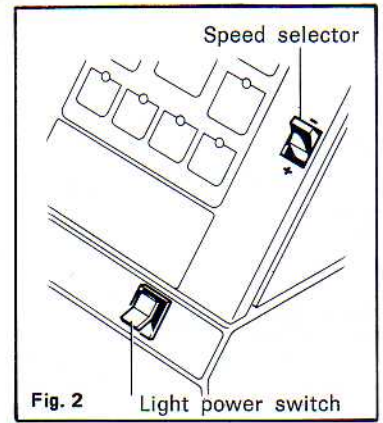

Fig. 2 Light power switch
Now simply press your foot on the foot control until you reach a slow even speed. Never try to sew too fast. The harder you push the control the faster the machine will sew. For your first use, use the machine with the 2 speed selector (11) set for slow (as shown in Fig. 2).